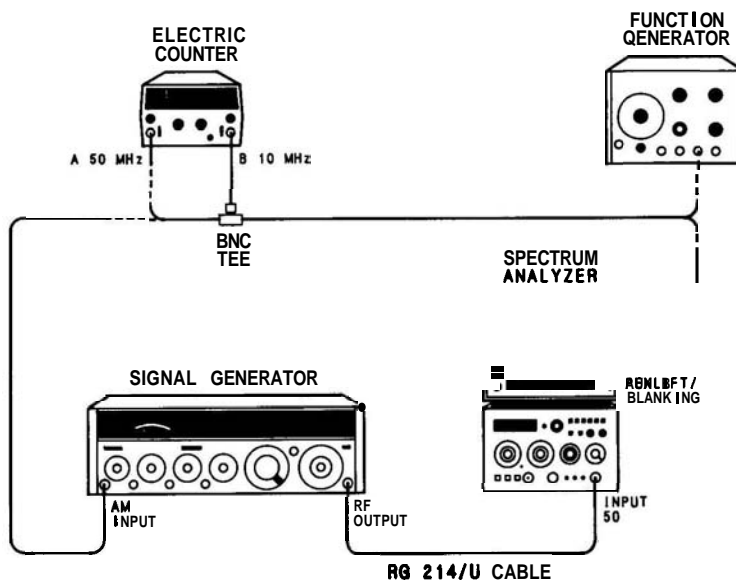

FIGURE 4-19. SWEEP TIME ACCURACY TEST SETUP
2. Connect equipment as shown in Figure 4-19. Connect counter's **B** 10 MHz input to the function generator low output and the signal generator's AM input.